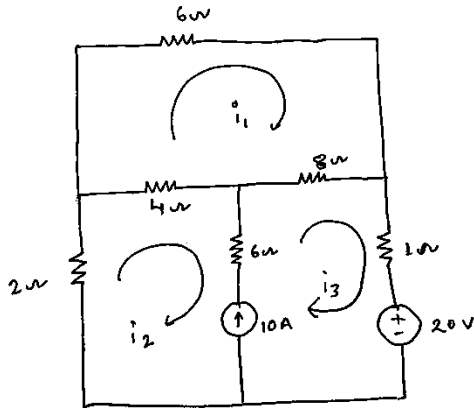

Fig. 2.5
5. Find Mesh Currents of the circuit shown in Fig. 2.5. [Ans: -0.95A, -8.09A, 1.9 A]